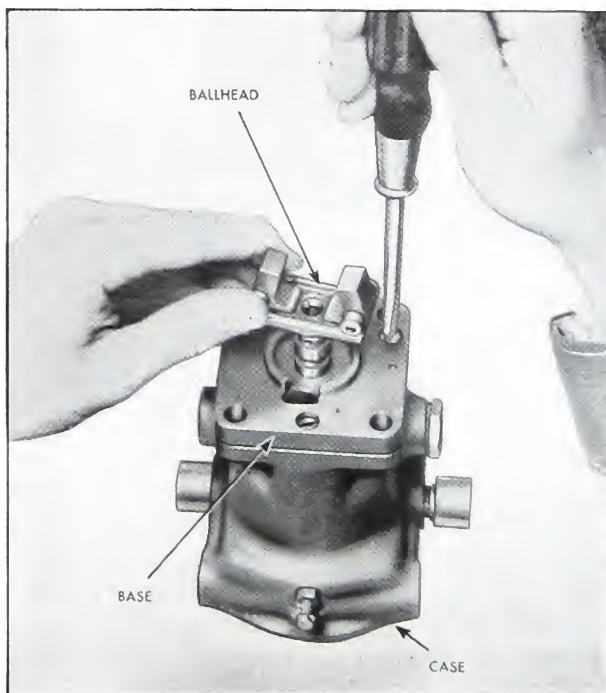

Fig. 5-127. Assembling base to case
5. Place case on base, invert and place ballhead through base and case, as shown in Fig. 5-127.